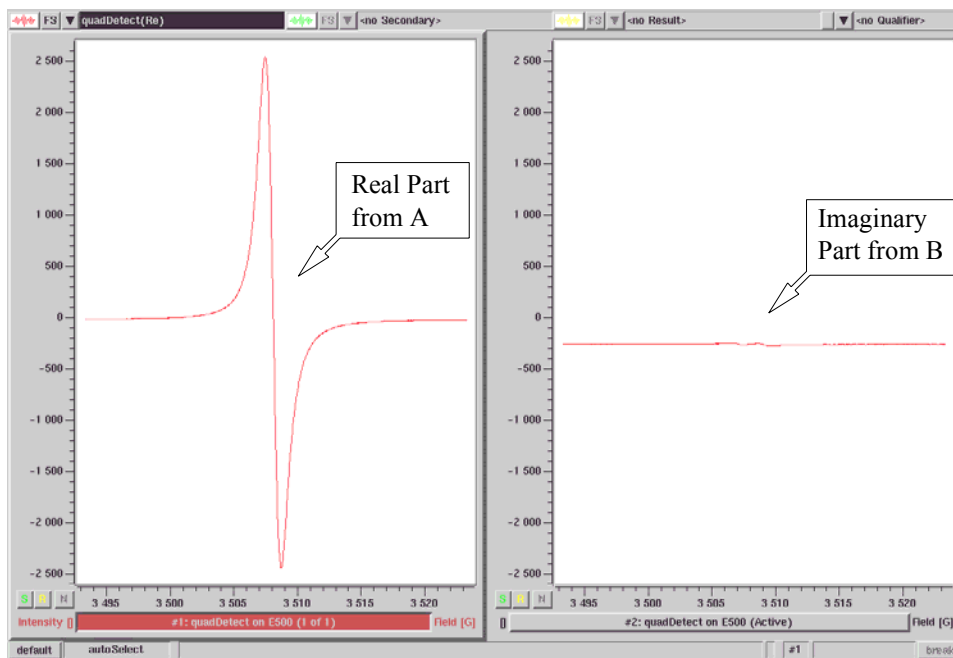

Figure 14-9 Viewing the signals from both signal channels.
6. **View the signals from both channels.** The resultant spectrum is complex in which the real part is the signal detected by the signal channel A and the imaginary part is the signal detected by the signal channel B. Click the Re/Im button in the Tool bar to display the two signals respectively. (See Figure 14-9.)